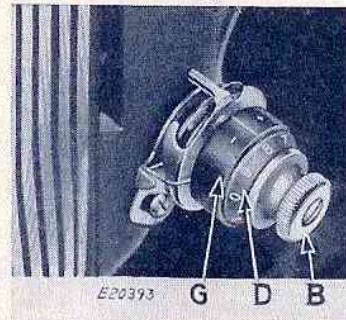
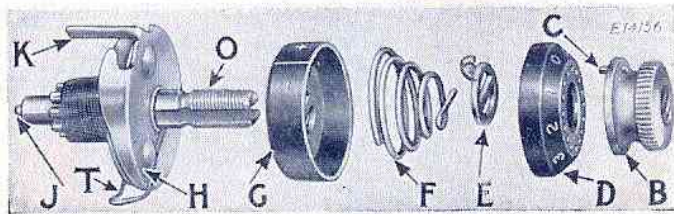

FIG. 18. NEEDLE THREAD TENSION
FIG. 19
Caution—It is important for the tension thumb nut (B, Fig. 18) to have a firm fit on tension stud (O, Fig. 19, page 22) to keep the numbered dial (D) in the position set for the required tension. To remedy a loose fit of the nut, remove parts B, D, E, F and G, Fig. 19, and slightly spread the stud, then reassemble the parts as instructed on pages 22 to 25 inclusive.
The numbered dial (D, Fig. 18) is marked with numbers ranging from 0 to 9 which indicate different degrees of tension that can be produced. The numbers do not denote a particular size of thread. By noting the number which is opposite the center line between the plus and minus signs, on the indicator (G) when set for a satisfactory tension on the work being stitched, the work can be readily reverted to when a change is made in the tension or size of thread.
Turn the thumb nut (B, Fig. 19) to the left until it stops at "0" on the numbered dial, then
Note. It is not necessary to remove the stud (O, Fig. 19) from the machine arm in order to disassemble the thread tension. It is shown removed, in Fig. 19, only for the purpose of illustration.
First make sure that the tension releasing pin (J), only the end of which is shown in Fig. 19, is in place in the stud (O).
Guide the tension disc assembly onto the stud so that the extension (K, Fig. 19) of the thread guard enters the hole in the machine arm, and the tail (inside the coil) of the thread take-up spring enters one of the grooves in the stud. Next replace the indicator with the large open side facing the
end of the stud so that the plus and minus marks will be at the top (with the minus sign at the left) and hold the parts, thus assembled, against the shoulder of the stud. Then insert the tension spring (F, Fig. 19) in the indicator with the first (half) coil of the spring straddling the lower half of the stud. Guide the stop washer (E) onto the stud so that the extension will be above the tension stud.